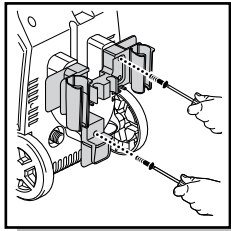
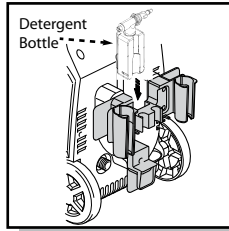

Fig. 1
Fig. 2
- Install the accessory holder on the back of your BLUE CLEAN POWER WASHER (Fig. 1). You'll notice where the accessory holder meets the back of the unit. You will see several male index posts which fit into female holes. The posts and holes enable easy placement of the accessory holder and easy tightening of the screws. Place the screws in the holes provided on the accessory holder and screw them in. Do not use a power screwdriver. When the screw is completely tight, give a small final clockwise twist of the screwdriver. Do not over tighten. After the accessory holder is installed you will notice a square area in the center of the holder where the square detergent bottle may be stored and easily retrieved (Fig. 2).
- Using one of the supplied screws, install the small electric power cord holder below the accessory holder so that the "L" - shaped holder faces downward. The electric power cord can now be wrapped around the accessory holder and the bottom "L" - shaped holder while your power washer is not in use (Fig. 1).